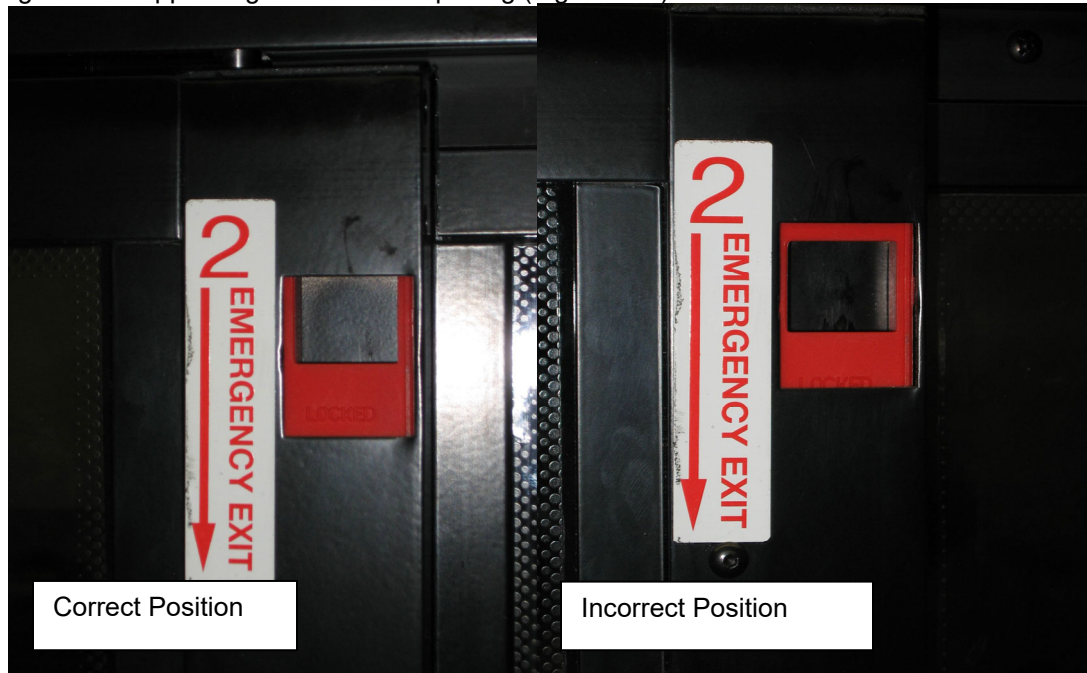

FIGURE 108: RELEASE LATCH PROPER POSITION
6. Confirm that both latches are in the closed (latched) position. The upper edge of the latch opening must be aligned with upper edge of the sash opening (Figure 108)